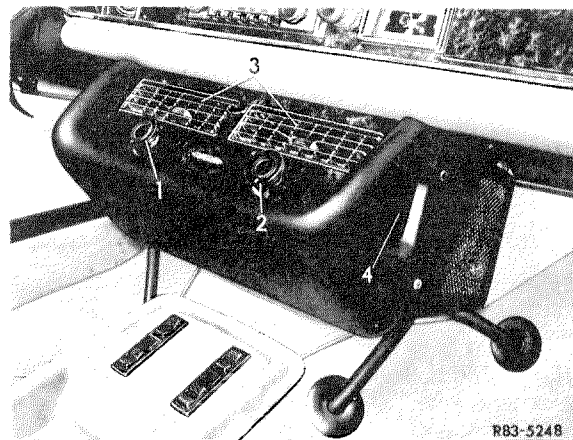

Fig. 83–11/3
The air to be cooled is extracted from the interior of the car by the blower. This blower is located behind the evaporator in the front evaporator case. The cooled air is discharged through the two louvres (3) and through the outlets (4) on the left-hand and right-hand side of the front evaporator case (Fig. 83–11/3).